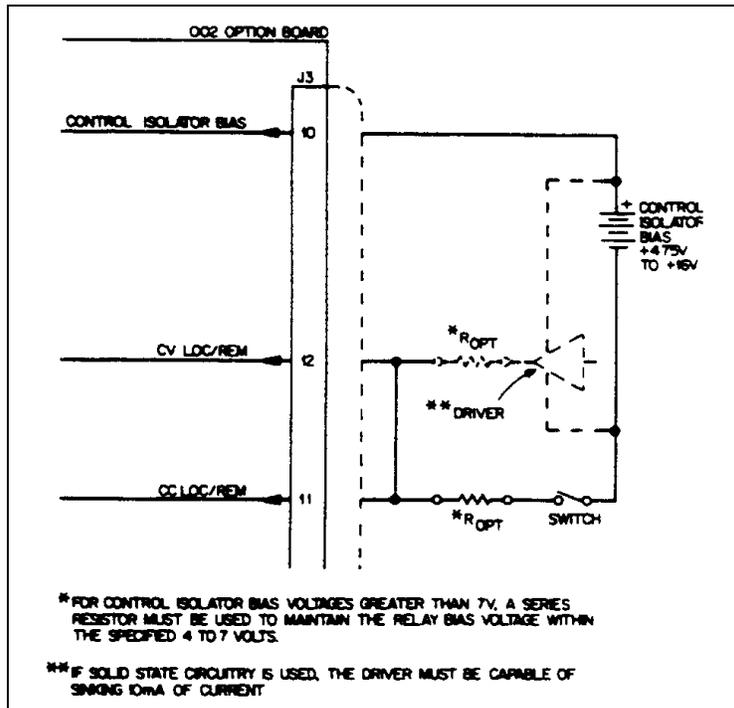
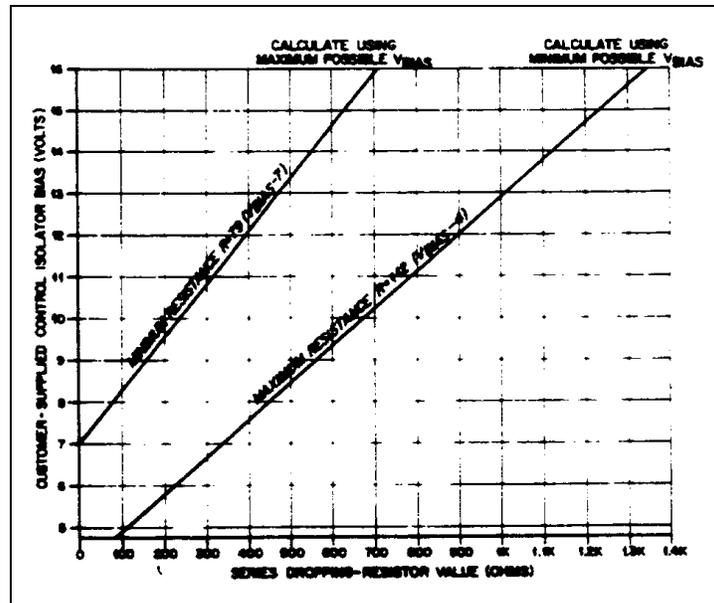

Figure A-3. Accessing Local Programming While In Remote Programming Mode
Figure A-4. Calculating Value of Series Dropping Resistor
Local Programming (Figure A-3). The supply can be switched back and forth between remote and local programming while initially checking out a remote programming circuit. For proper operation of local programming, the user must supply the bias voltage (CONTROL ISOLATOR BIAS). The Control Isolator Bias voltage can range from +4.75V to +16V depending upon the user's interface circuits. Refer to Specifications Table A-1. For local programming, take the Control Isolator Bias common and connect it to both of the LOC/REM terminals, and position mode switch as indicated in Operation.
Although CONTROL ISOLATOR BIAS can be +4.75V to +16V, a supply voltage of more than 7V may damage the relays. Therefore, if CONTROL ISOLATOR BIAS exceeds 7V it is necessary to use a resistor in series with each of the LOC/REM terminals. Figure A-4 provides a graph from which the proper series resistance value can be determined. Note that the tolerances of both the Control Isolator Bias and the resistor must be taken into account. The actual Control Bias used in Figure A-4 is obtained after subtracting any driver gate voltage drop.
If solid state circuitry is used, connect the Control Isolator Bias to a driver capable of sinking 10mA of current, then connect the driver's output to both of the LOC/REM terminals. Refer to Figure A-3. Either method will enable relays K1 (CV) and K2 (CC) to switch regulation to the front-panel VOLTAGE and CURRENT controls. For Control Isolator Bias voltages greater than 7V, a resistor (R_{opt}) must be used in series with the Control Isolator Bias common or the Driver's output. Figure A-4 provides a graph for determining the proper series resistance value depending on the Control Isolator Bias voltage being used.
Observe the caution described in Local Programming paragraph, page 85 (Figure A-3).